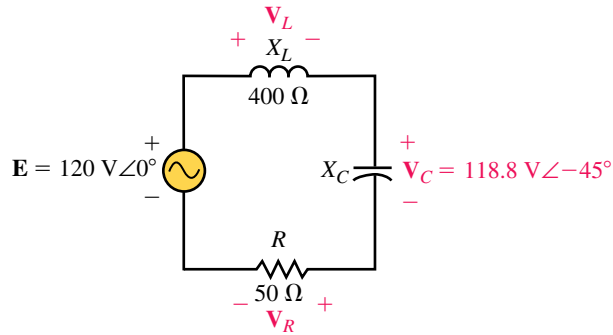

FIGURE 18–98
28. Refer to the circuit of Figure 18–98.